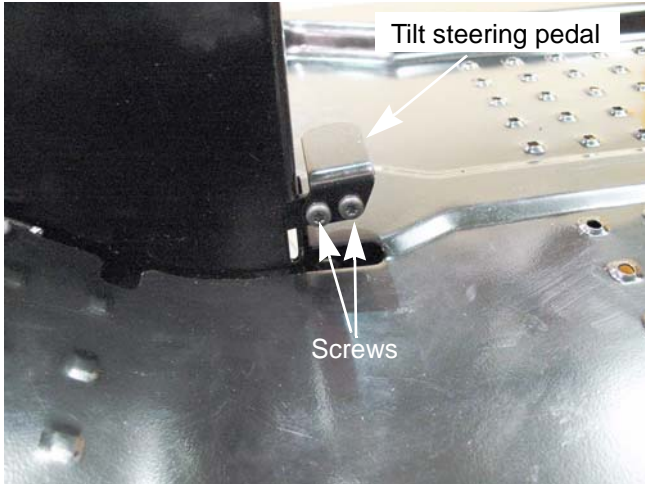

Figure 4.1
2. Remove the two screws that hold the tilt steering pedal using a T-30 torx driver. See Figure 4.1.